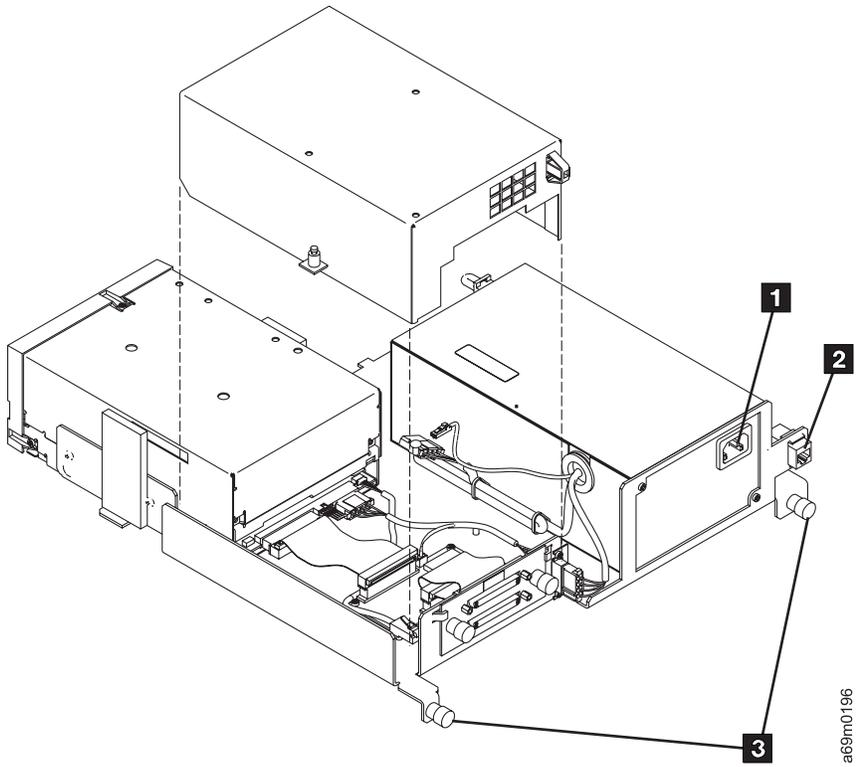
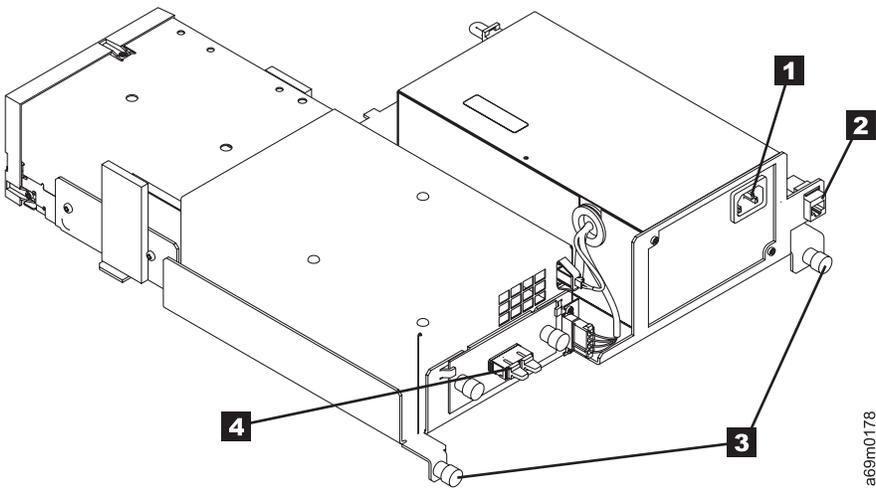

Figure 44. LTO SCSI Drive Tray Assembly
Figure 45. LTO Fibre Drive Tray Assembly
1. See Figure 44 on page 106 and Figure 45 on page 106. From the rear of the library, slide the drive assembly into the highest available drive location.